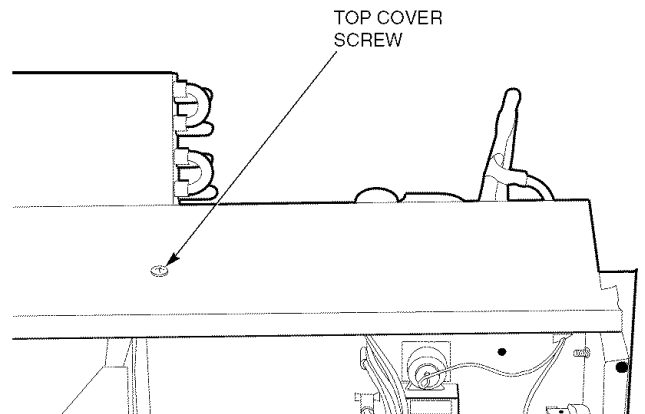

FIGURE 27 — TOP COVER SCREW
6. Remove the top cover (one screw). See Figure 27.